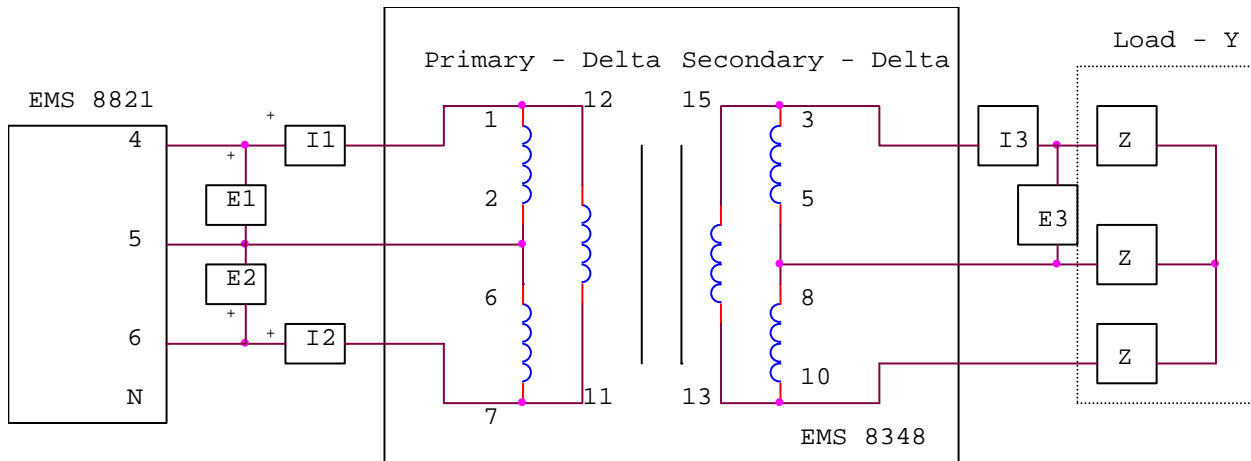

Figure 6: Δ - Δ connected three-phase transformer for part four.
16. Repeat steps 13 and 14 using the circuit of Figure 6.